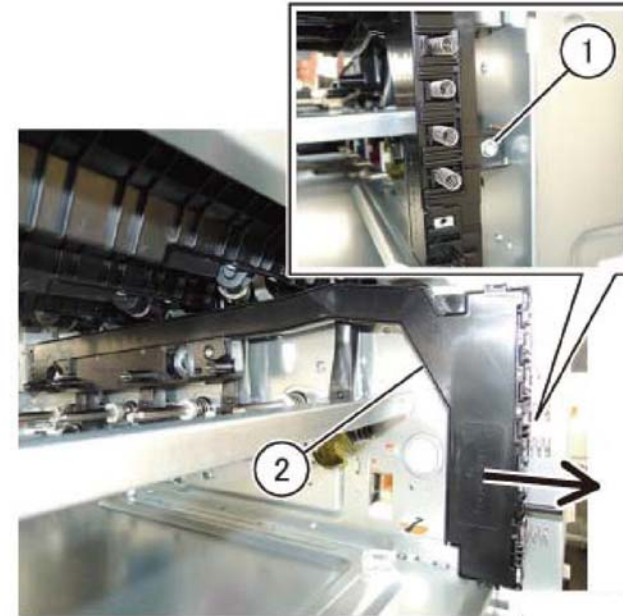

Figure 1 Conductor housing assembly removal
2. Remove the toner cartridge (K). PL 90.05 Item 13.
4. Remove developer unit (K), REP 90.1.
11. Remove the conductor housing assembly, Figure 1.
- a. Remove the screw (1).
- b. Remove the conductor housing assembly (2) in the direction of the arrow.